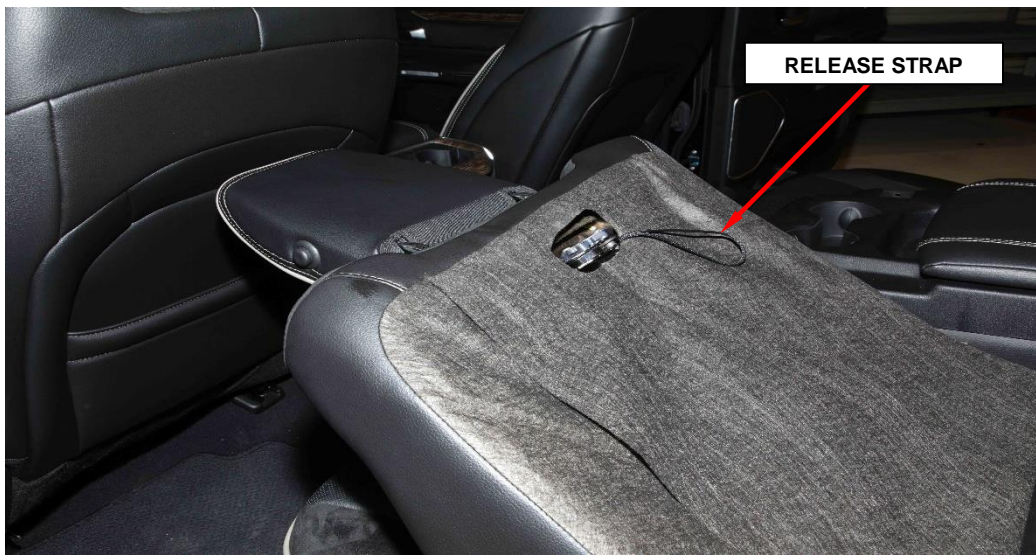

Figure 2 – Release Strap
5. Reach behind the seatback in the area and locate the release strap (Figure 2).